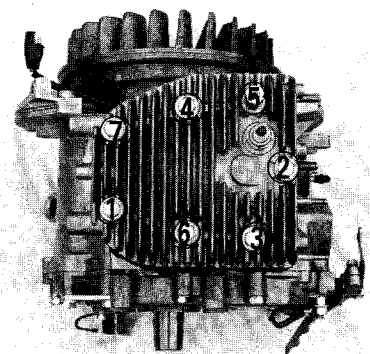

Figure 6-10
20. Disconnect wire connection to CDI unit (7), remove CDI mounting bolts (5) to flywheel shroud and remove CDI.
21. Remove the bolts (37) from flywheel shroud. Remove shroud (8).
22. To remove cylinder head (52) (**Figure 6-2**), remove the head bolts (54), in sequence (**Figure 6-10**).